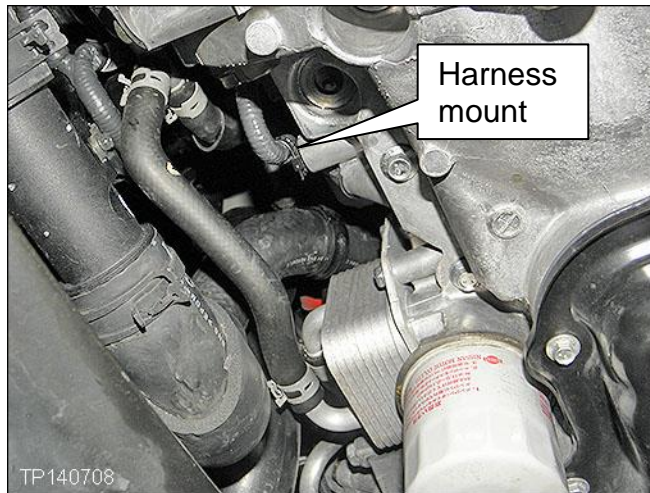

Figure 3
6. Disconnect the electrical harness mount, shown in Figure 3, from the side of the engine.
- b. Locate the harness mount shown in Figure 3.